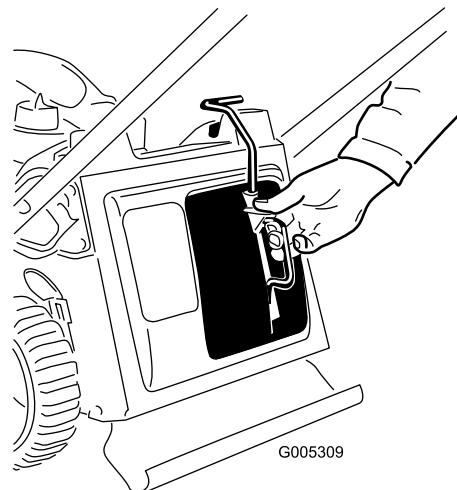

Figure 29
- Remove the mulch plug (Figure 29).